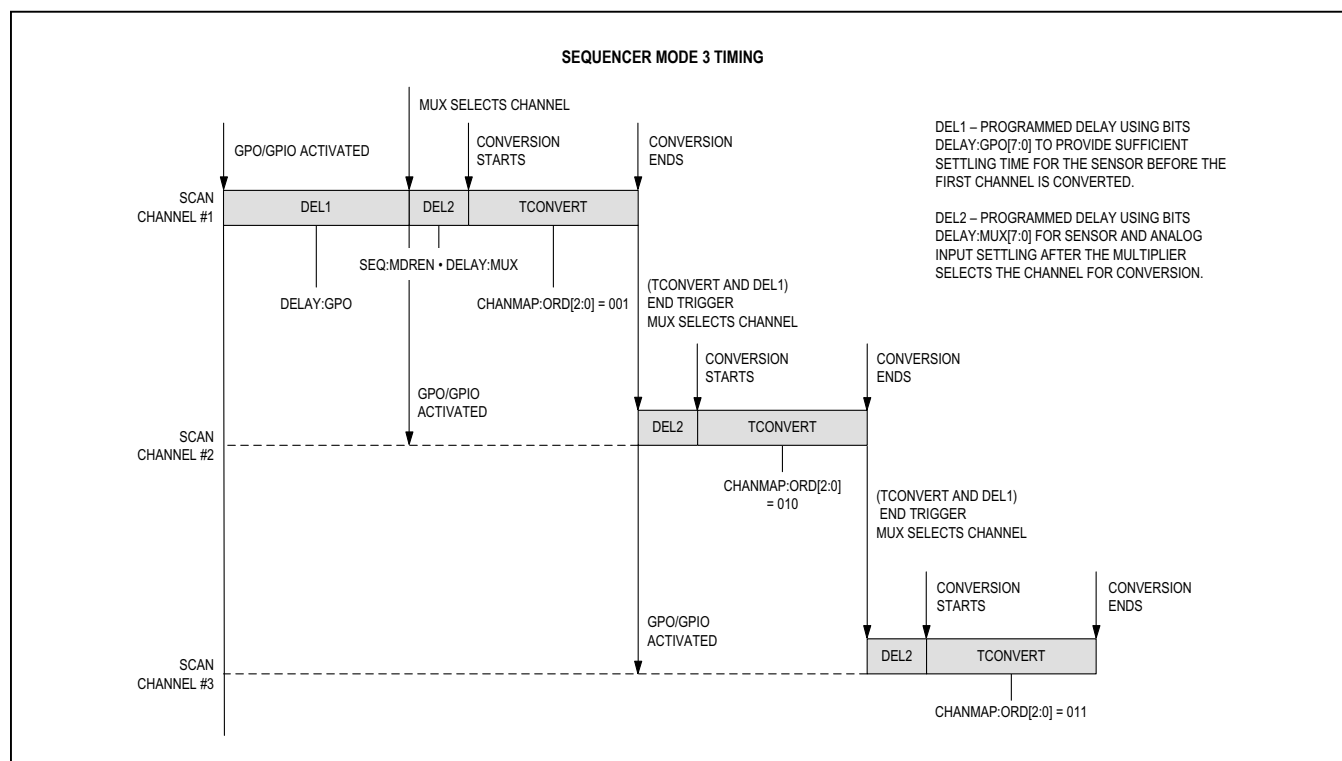

Figure 8. Sequencer Mode 3 Timing Diagram for a Three-Channel Scan
This mode is used to sequentially convert a programmed set of channels in a preset order and sequence the GPO bumps concurrently. The GPO bumps are used to bias external circuitry such as bridge sensors; the common reference (GPOGND) is typically ground. After all channel conversions have completed, the MAX11261 automatically powers down into SLEEP mode. Figure 8 illustrates the Sequencer Mode 3 timing diagram for a three-channel scan. Register GPO_DIR is ignored in this mode as the output controls are controlled by the sequencer.
- Enable SEQ:GPODREN for adding a delay (DEL1) before the multiplexer selects the first channel for conversion. See Figure 8 for timing. Set DELAY:GPO to a delay value sufficient for the bias to settle.